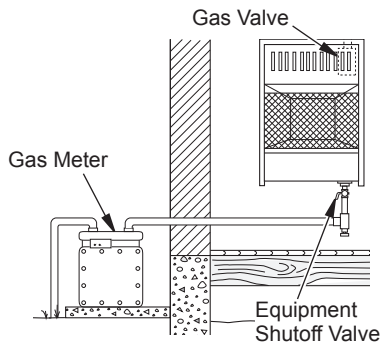

Figure 14 - Natural Gas Supply
3. Check all joints from gas meter to equipment shutoff valve (see Figure 14). Apply a noncorrosive leak detection fluid to all joints. If bubbles form, there is a leak.
4. Check all joints from equipment shutoff valve to control valve (see Figure 14). Apply a noncorrosive leak detection fluid to all joints. Bubbles forming show a leak.